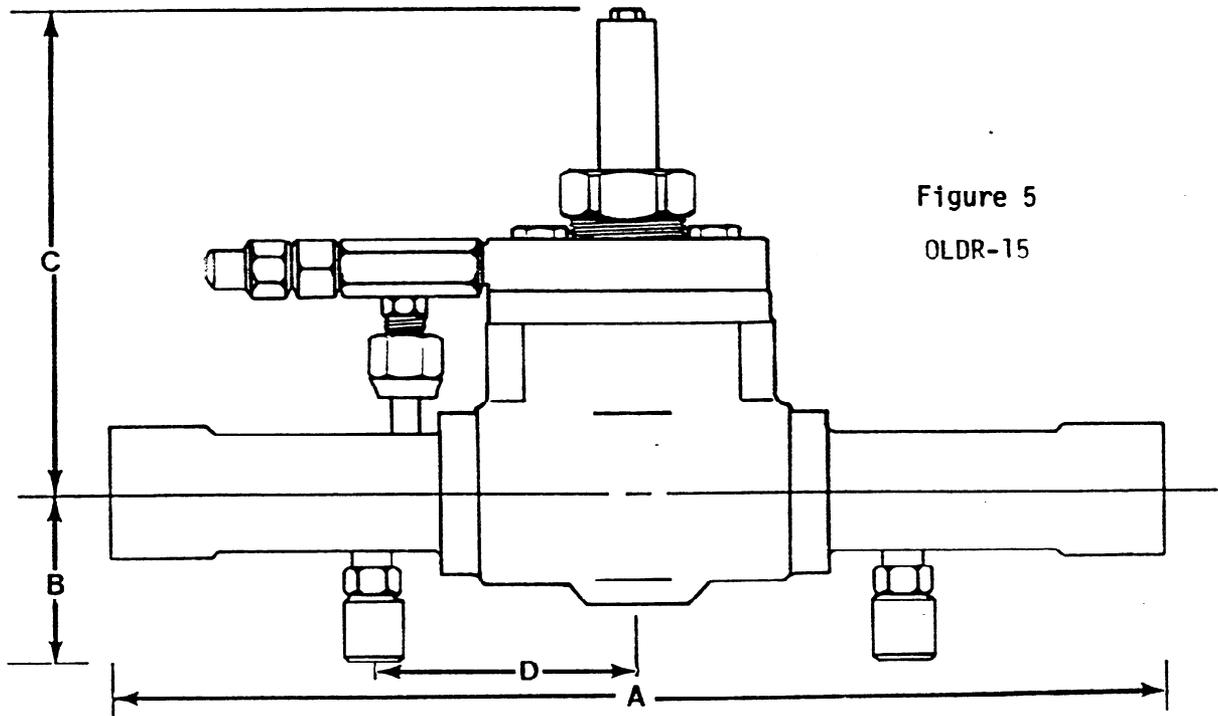

Figure 5
(0)LDR-15 size valves do not have the tube from inlet fitting to pilot assembly. Inlet pressure enters the pilot assembly through a passageway in the valve body. (see figure 5).